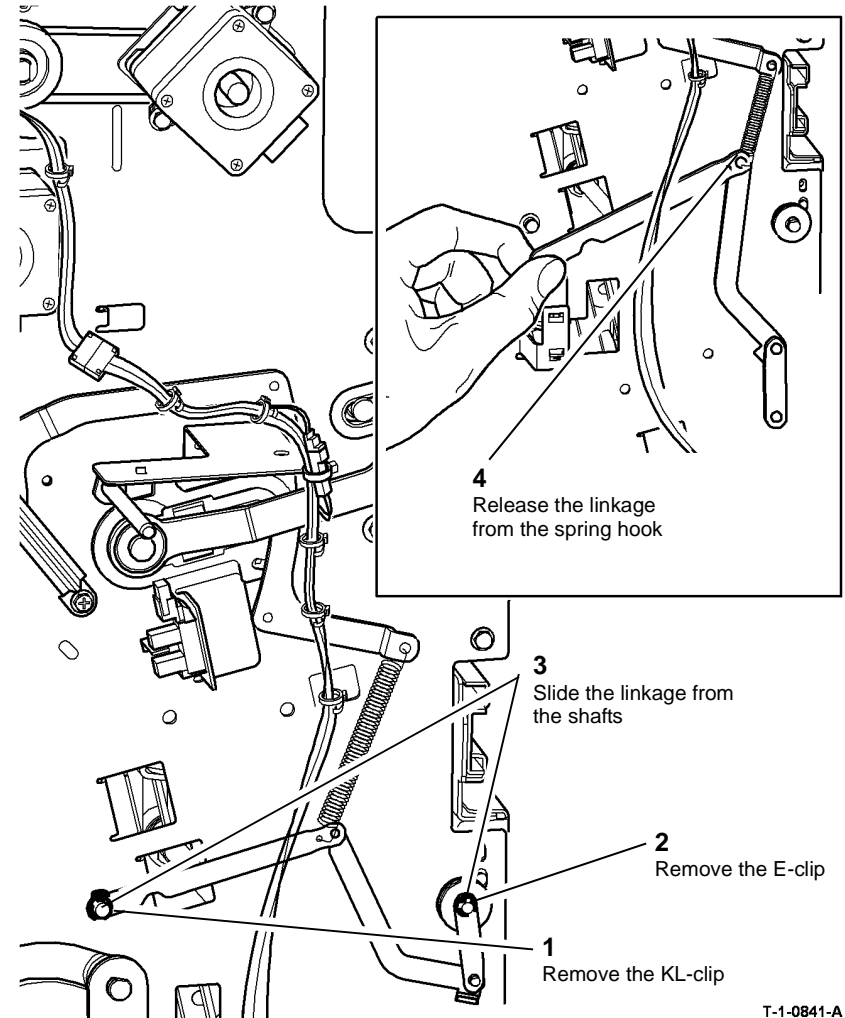

Figure 3 Rear linkage removal
11. **Figure 3**, remove the rear lower linkage.